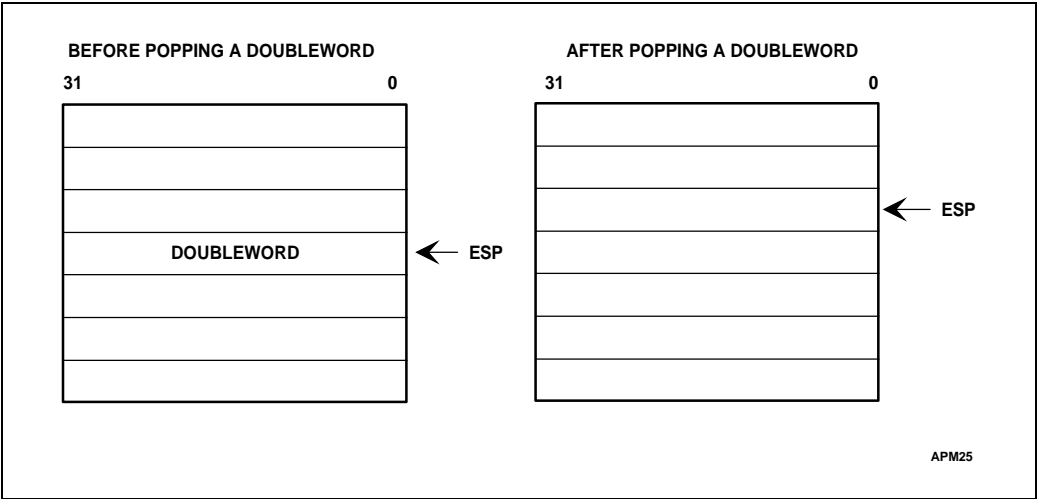

Figure 4-3. POP Instruction
**POP (Pop)** transfers the word or doubleword at the current top of stack (indicated by the ESP register) to the destination operand, and then increments the ESP register to point to the new top of stack. See Figure 4-3. POP moves information from the stack to a general register, segment register, or to memory. A special form of the POP instruction is available for popping a doubleword from the stack to a general register. This form has an encoding which is one byte shorter than the general-purpose form.